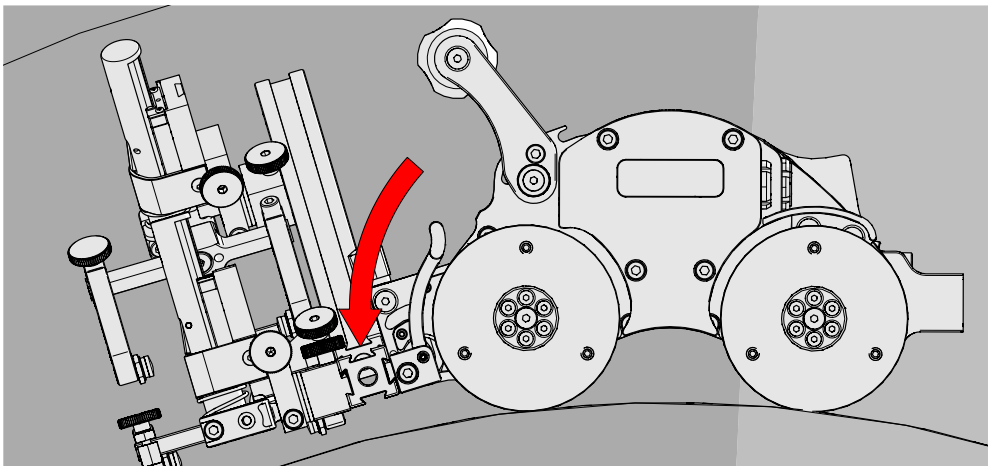

Fig. 194 - Align swivel mount with scan surface
3. Release the front swivel mount adjustment levers to align the swivel mount parallel to the scan surface (Fig. 194).